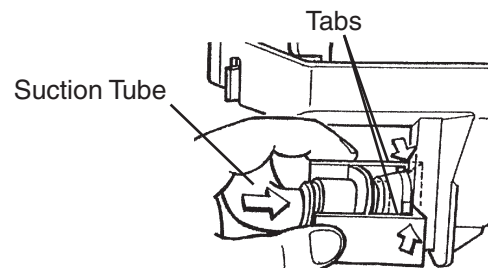

Fig. 32
- 7) Reconnect the suction tube as illustrated. See Fig. 32. Make sure the tabs lock into place; a loose fitting may cause a water leak.